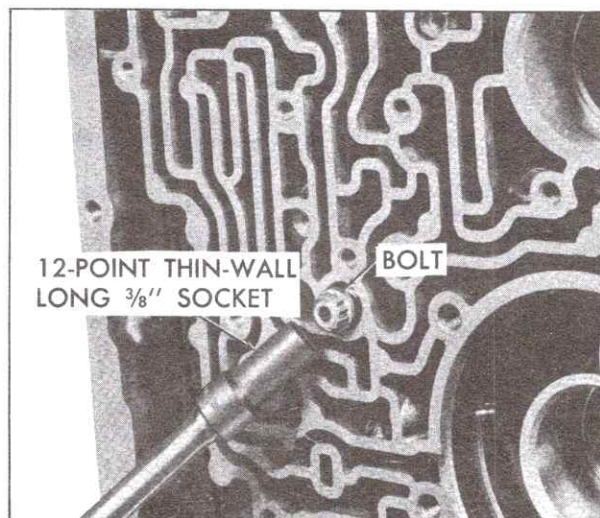

Fig. 7-160 Removing Center Support Bolt
1. Remove center support bolt from transmission case, Fig. 7-160, using a 3/8 inch 12-point thin wall socket such as Snap-On SFH 121.